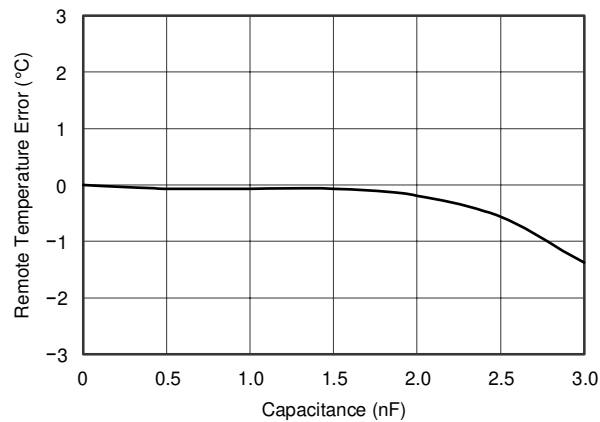
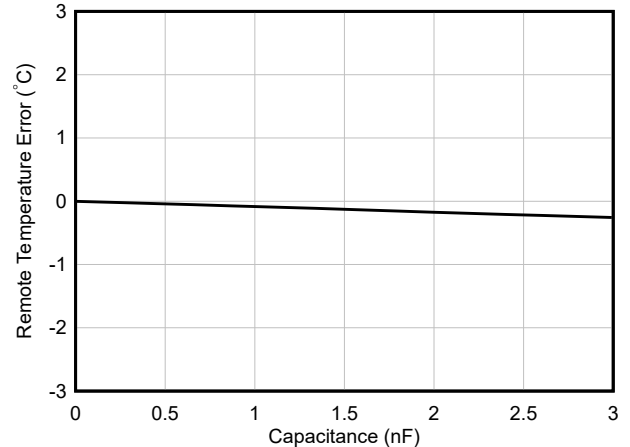
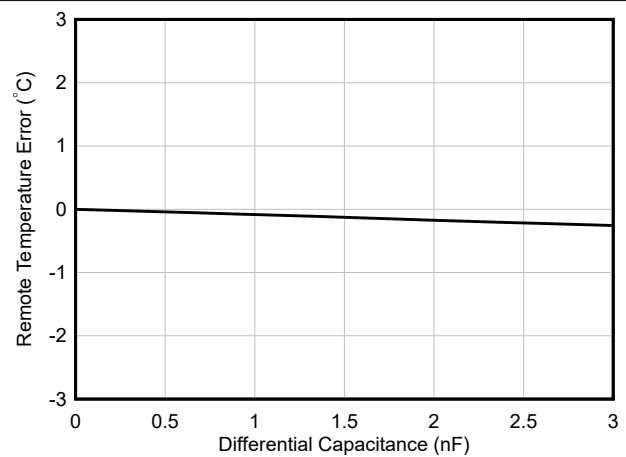

Figure 6-12. Remote Temperature Error vs Differential Capacitance (Legacy Chip)
Figure 6-13. Remote Temperature Error vs Differential Capacitance (New Chip)
Figure 6-27. Remote Temperature Error vs Differential Capacitance
- C_{DIFF} (optional) must be $< 1000\text{pF}$ in most applications. Selection of C_{DIFF} depends on specific application; see the Filtering section and Figure 6-12 (Figure 6-13 for new chip) and Figure 6-27.
The TMP411/TMP411D tolerates differential input capacitance of up to 1000pF with minimal change in temperature error. The effect of capacitance on sensed remote temperature error is shown in Figure 6-12 (Figure 6-13 for new chip) and Figure 6-27.